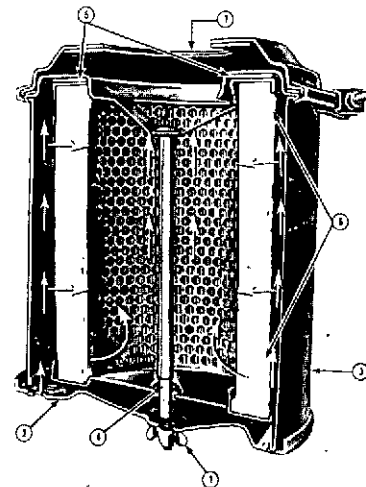

Fig. 5-15, N11003. Air cleaner - dry type
The paper element in a dry-type air cleaner, Fig. 5-15, may be cleaned several times by using an air jet to blow off dirt or by washing with non-sudsing household detergent and warm water, preferably 120 to 140 deg F [48.9 to 60.0 deg C], then drying with compressed air, approximately 40 psi [2.8124 kg/sq cm]. Do not hold air jet too close to paper element or damage to element may result.
1. Loosen wing nut (1, Fig. 5-15) securing bottom cover (2) to cleaner housing (3). Remove cover.
2. Pull element (6) down from center bolt (4).
3. Remove gasket (5) from outlet end (7) of housing.